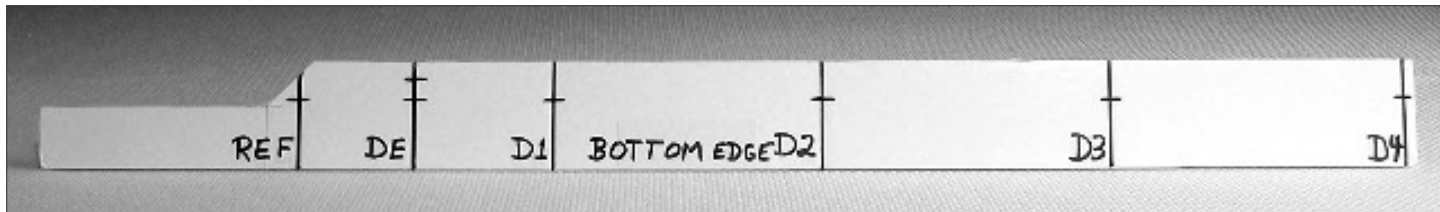

Figure 3: Side panel with element positions marked (markings made very dark for illustrative purposes).
18) Place the 45 degree surface of combination square's head against the factory edge and extend and position the rule so you can draw a 45 degree line from the third mark to the right and up to the top edge. Using previous cutting methods cut along the 5 inch and 45 degree lines making a curved transition at their junction. See Figure 3.
21) Now, at each marked element position, use the combination square to draw a line perpendicular to the factory edge (bottom edge) and across the side panel. Then, re-adjust the combination square to measure and place a cross-mark on each line at a point 1-3/8 inches up from the factory edge. At the driven element line only, make a second cross-mark 1-7/8 inches up from the factory edge. See Figure 3.